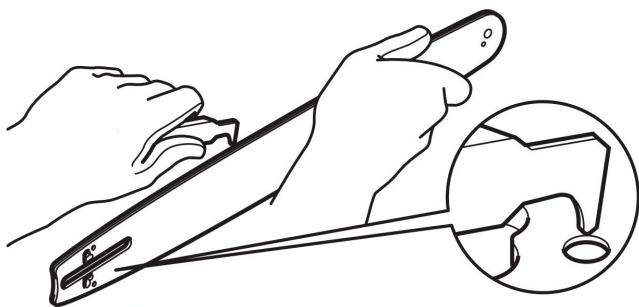

Fig. 71
4. Clear residue from the rails on the guide bar (C13) using a screwdriver, putty knife, wire brush or other similar tool. This will keep the oil passages open to provide proper lubrication to the guide bar (C13) and saw chain (C12) (Fig. 71).